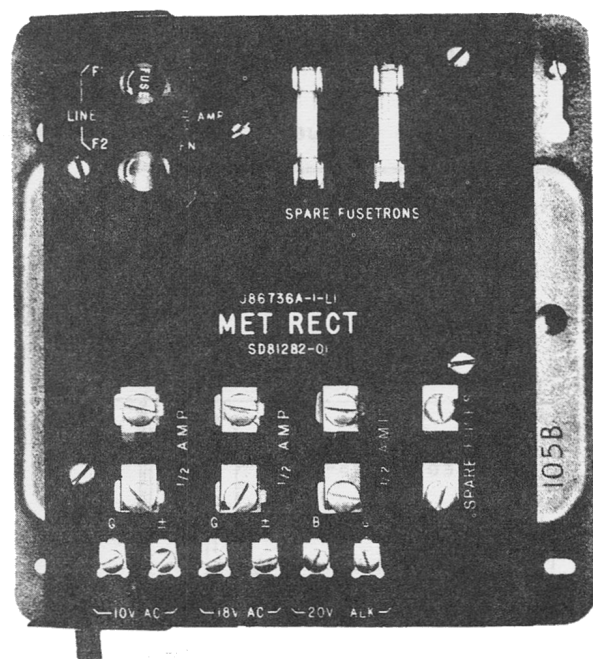

Fig. 6 — 101H Power Plant, Cover Removed
5.02 This power plant is mounted in a 105B apparatus box (see Fig. 6).